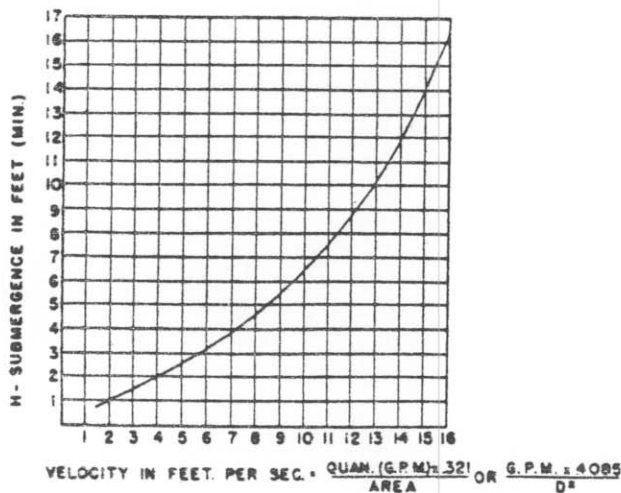

Fig. 6
- (c) The suction pipe should always be submerged into the source of supply as shown in Fig. 6.
- (b) The size of the entrance from the source of supply or minimum submergence over the entrance should be calculated from the data as shown in Fig. 6 for applicable condition to prevent air from being drawn into the pump.